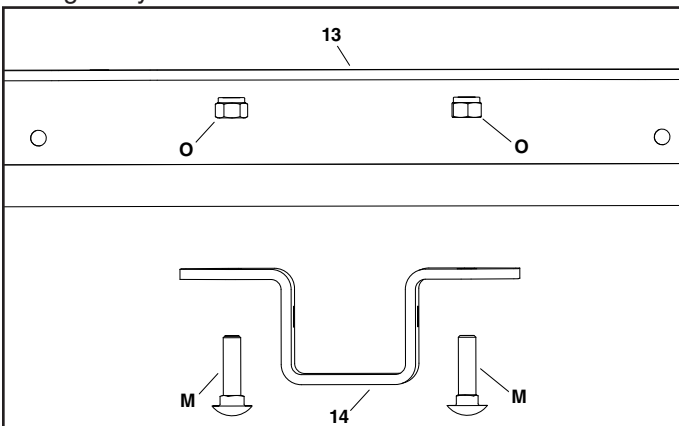

FIGURE 5
STEP 5: (SEE FIGURE 5)
- Attach the hitch mount bracket (14) to the bottom of the hopper mount bracket (13) using two carriage bolts (M) and two nylock hex nut (O). Do not fully tighten yet.